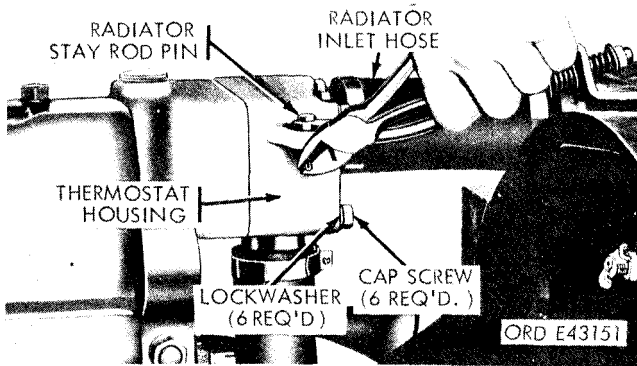

Figure 2-134. Removing radiator stay rod from thermostat housing—gasoline models.
- (1) Drain the cooling system. Refer to TM 9-2320-211-10.
- (2) Loosen the rear clamp on the radiator inlet hose (fig. 2-134).
- (3) Loosen the upper clamp on the bypass hose (fig. 2-134).
- (4) Remove the cotter pin and radiator stay rod pin (fig. 2-134) securing the stay rod to the thermostat housing, and remove the stay rod.
- (4) Position the rear end of the radiator stay rod at the bracket on the left side of the thermostat housing (fig. 2-134), and install the radiator-stay-rod pin and cotter pin.
- (5) Tighten the rear clamp on the radiator inlet hose (fig. 2-134) and the upper clamp on the bypass hose.
- (6) Fill the cooling system. Refer to TM 9-2320-211-10.
(4) Position the rear end of the radiator stay rod at the bracket on the left side of the thermostat housing (fig. 2-134), and install the radiator-stay-rod pin and cotter pin.
(5) Tighten the rear clamp on the radiator inlet hose (fig. 2-134) and the upper clamp on the bypass hose.
(6) Fill the cooling system. Refer to TM 9-2320-211-10.